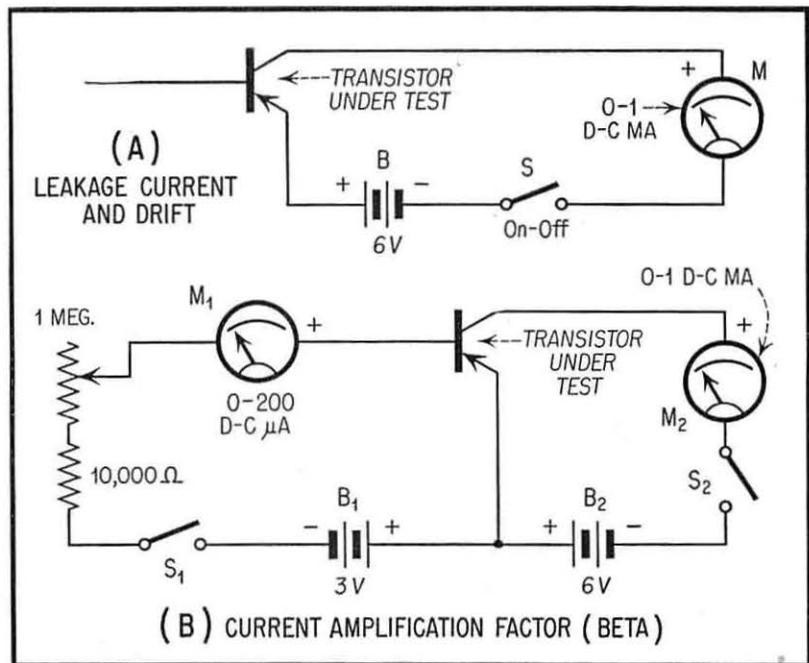

Fig. 4. Transistor Test Circuits.
After the transistor is removed, check it in a transistor tester. If a tester is not available, use the circuits shown in Figure 4. Use 4(A) first and then 4(B). The setup shown in Figure 4(A) checks leakage current and drift: Close switch S and note the reading of milliammeter M. This deflection shows the static leakage current, i_{cbo} , which should have a value of less than 0.125 ma in a good
test, connect it in the circuit shown in Figure 4(B). This circuit tests the current amplification factor, beta. First close switch S_2 and record the deflection of milliammeter M_2 as I_1 (in ma). Then, keeping switch S_2 closed, close switch S_1 , noting that the deflection of M_2 increases. Record the new reading of M_2 as I_2 (in ma). Record the reading of microammeter M_1 as I_3 (also in ma). Calculate the value of beta from: $(I_2 - I_1) / I_3$. The correct value may be obtained from the transistor manufacturer's literature. Beta is between 10 and 50 for small transistors. Replace the transistor if beta has fallen to 70% or less of rated value.
The current values will be much higher for power transistors such as are used in the audio output stage of a transistorized auto radio. Leakage current measured in the test circuit in Figure 4(A) may be of the order of 1 ma. In the test circuit of Figure 4(B), M_1 should be a 0-1 d-c milliammeter, and M_2 a 0-1 d-c ammeter. In the beta test, the collector current will increase to a value of 500 ma or higher.